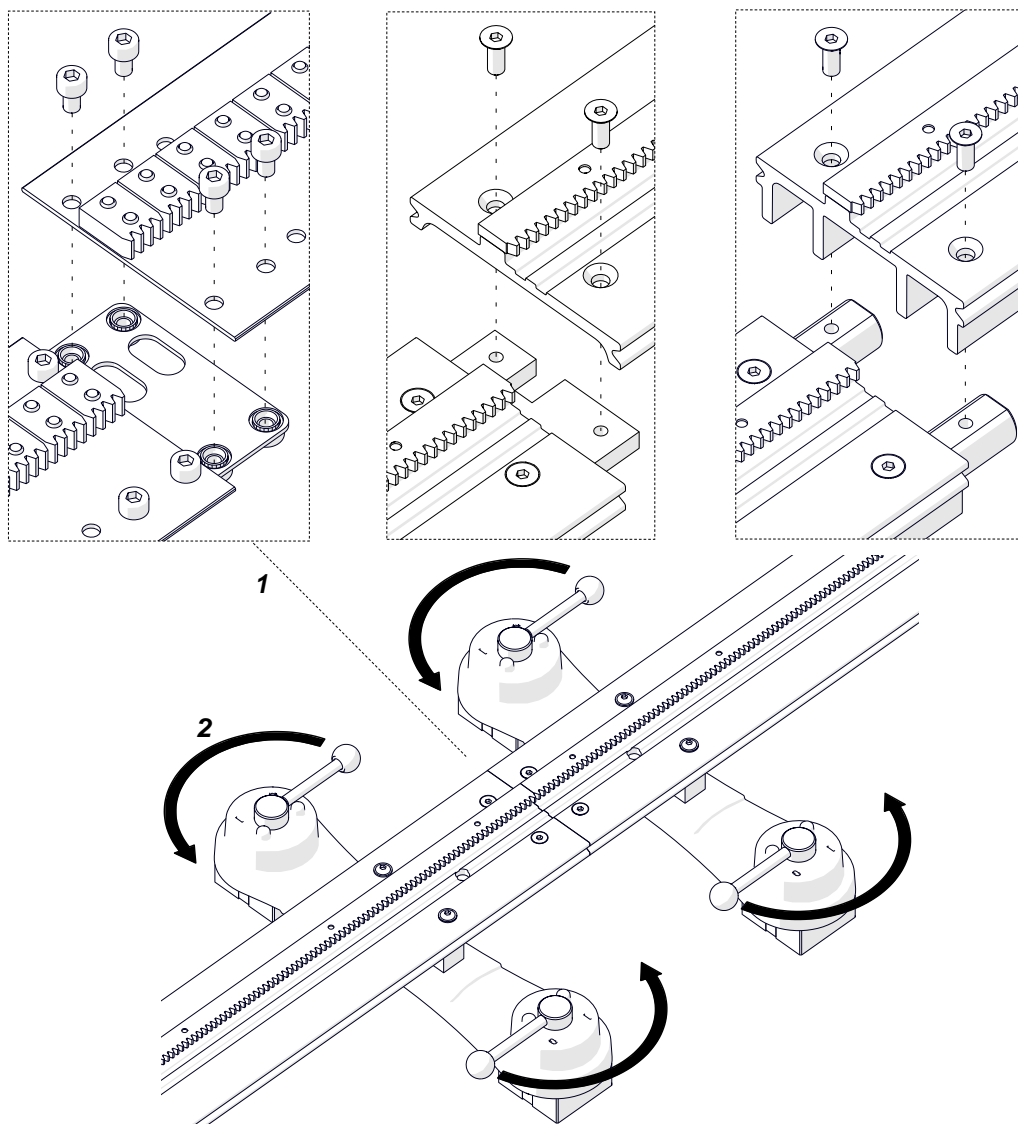

Fig. 1. Connecting the rails and clamping the magnetic units to the surface
Attach magnetic units to the rail, and put it on the workpiece. Use the 4 mm or 5 mm hex wrench to attach more rails (1, Fig. 1). Then, set the levers of the magnetic units to 'I' (2). This will clamp the track to the surface.